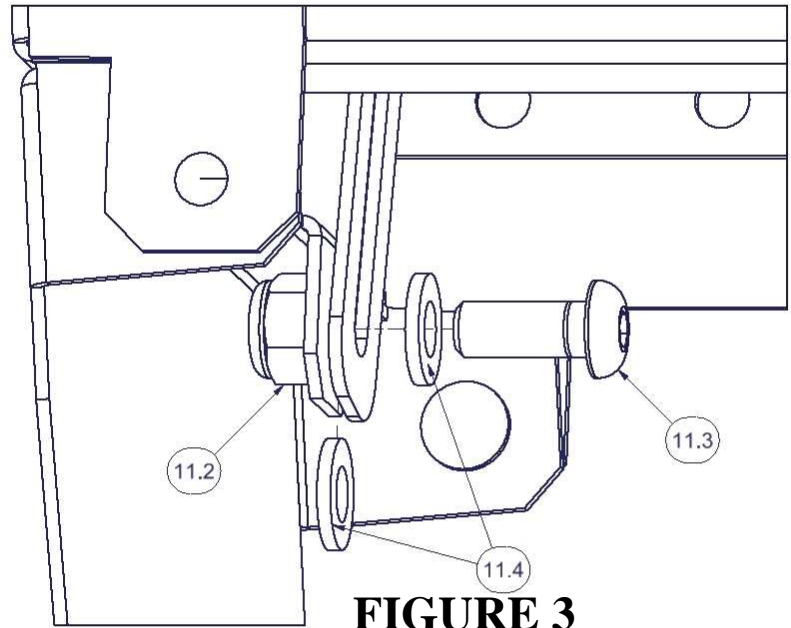

FIGURE 3
9. Assemble the lid support hardware, as shown in Figure 3. Tighten the hardware in small increments so that the lid remains supported as you require (usually self-supporting at a 45 degree lid angle).
NOTE: Second nylon washer (#11.4 shown below assembly in Figure 3) slips between moving slotted part, and stationary body.